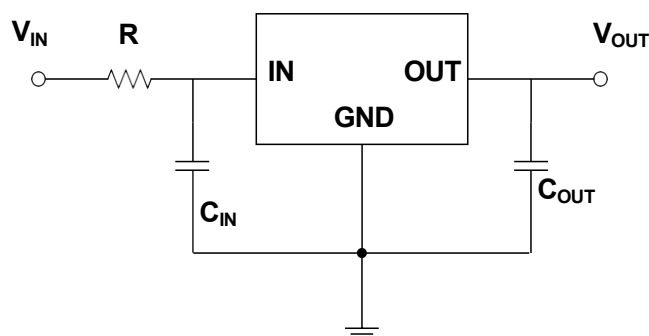

Figure 8-2. Resistance is used at IN
2. Place a resistor with appropriate resistance in series before the IN of the voltage regulator, which can help the voltage regulator share part of the energy in case of surge. The resistance value of the resistance should not be too large. The specific resistance value depends on the application of the circuit. Generally, the resistance value of this resistance does not exceed 20Ω . As shown in Figure 8-2.
For the CJ78M00E series, it is recommended that the input voltage should not exceed 17V and the peak voltage should not exceed 35V. **When the input voltage is greater than 17V, or the peak voltage that may be greater than 35V may appear in the practical circuit, it is recommended to adopt the circuit layout shown in Figure 8-2 in the circuit design.**
The CJ78M00E series can obtain better transient response with the help of output capacitance. However, if the output capacitor is relatively large, the surge current generated by the charging of the output capacitor will also be large at the moment of power on of the regulator, and the large surge current passing through the regulator may damage the internal circuit. When the output capacitance is large, adopting the circuit design shown in Figure 8-2 will reduce the possibility of damage to the device due to large surge current to a certain extent. It is recommended that the selection of output capacitor should not exceed 20 μ F. **If the selection of output capacitor exceeds 20 μ F, it is recommended to adopt the circuit design in Figure 8-2 to reduce the possibility of accidental failure of the device due to large surge current during power on.**
It is recommended that the output capacitor (C_{OUT}) should not exceed 20 μ F. When the output capacitor (C_{OUT}) exceeds 20 μ F, it is recommended to use the circuit layout shown in Figure 8-2. See *Large Output Capacitance* for more details.